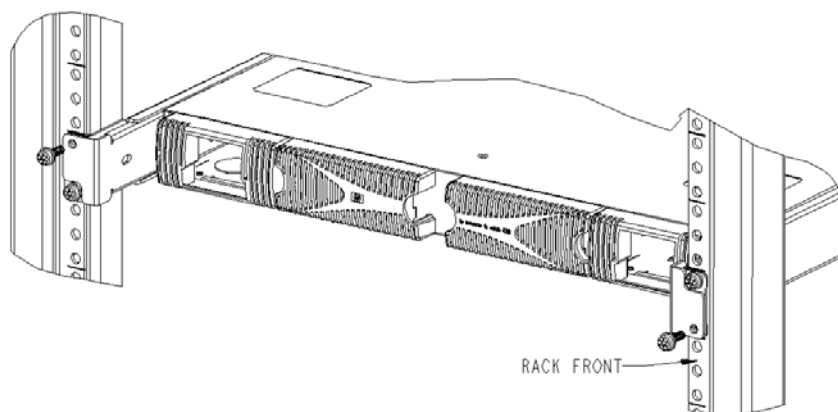

Figure 9. Installing Switch into an HP Rack
- For an HP rack, assemble (2) remaining M5 Torx screws to complete the installation. See Figure 9.